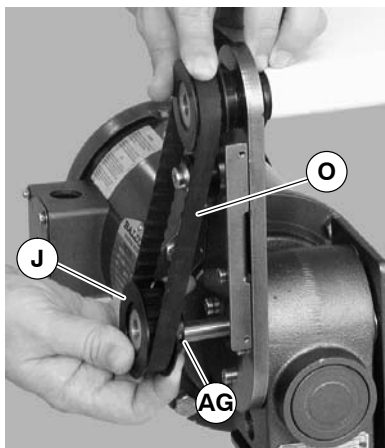

Figure 23
**NOTE:** If drive pulley (J of Figure 23) is replaced, wrap timing belt around drive pulley and complete step 3.
3. Loosen drive pulley set screws (AG of Figure 23). Remove drive pulley (J) and timing belt (O).
**NOTE:** Drive pulley (J of Figure 23) is removed. Wrap timing belt around drive pulley and complete step 16.